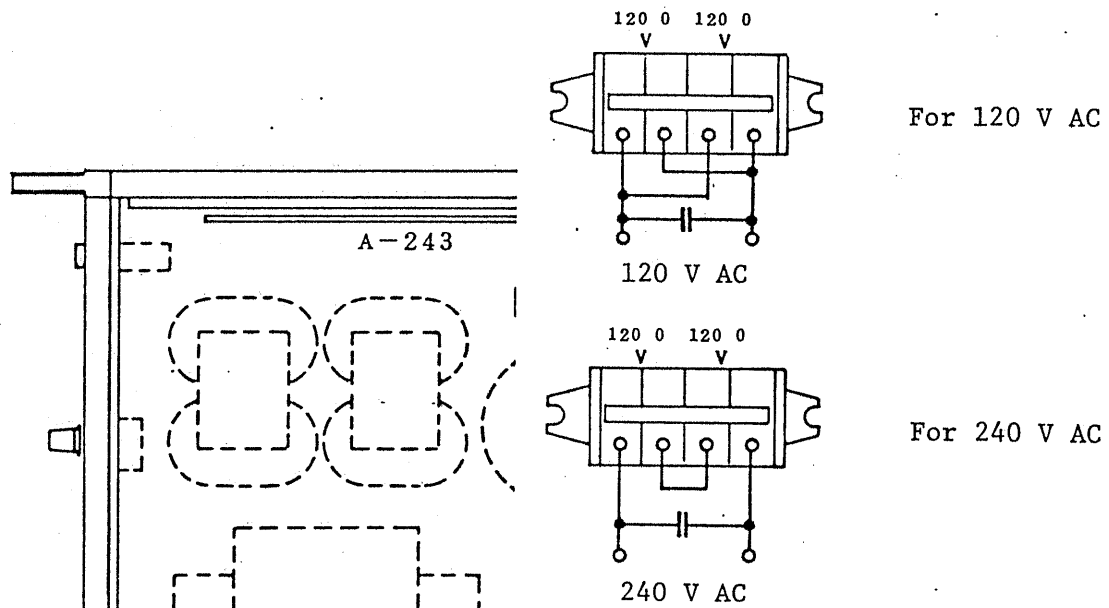

Figure 2-3
1. Change connections on terminal board of main power transformer. (See Figure 2-3.)